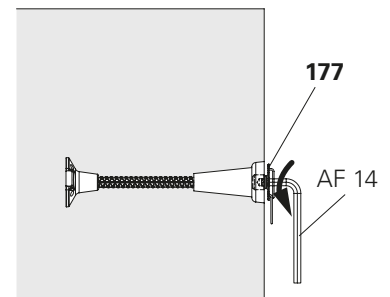

Fig. A3.28
4. Bend over wire nails  $\text{Ø } 3 \times 80$  (178) in order to protect hands.
5. Remove Anchor Positioning Stud M30 (177) using Allen key AF 14.
- (Fig. A3.28)